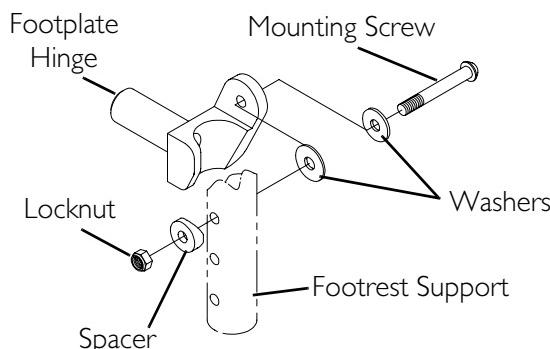

FIGURE 6.8 Installing Adjustable Angle Flip-up Footplate Hinge
NOTE: For this procedure, refer to FIGURE 6.8.
2. Position mounting screw, washers, spacer, and locknut on the footrest support as shown in FIGURE 6.8.